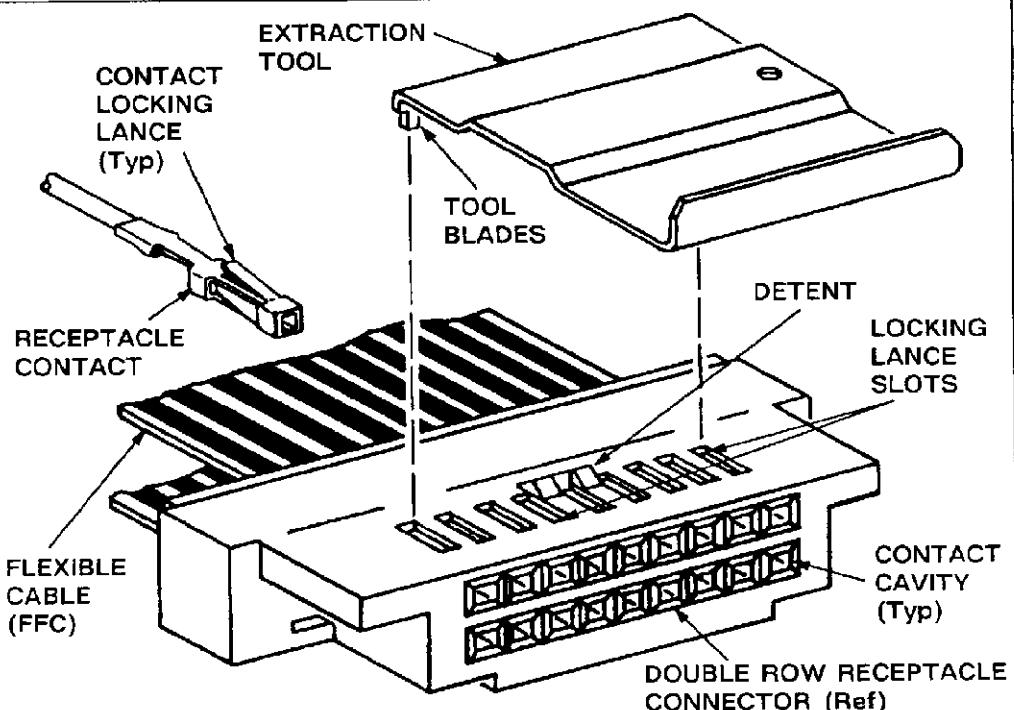
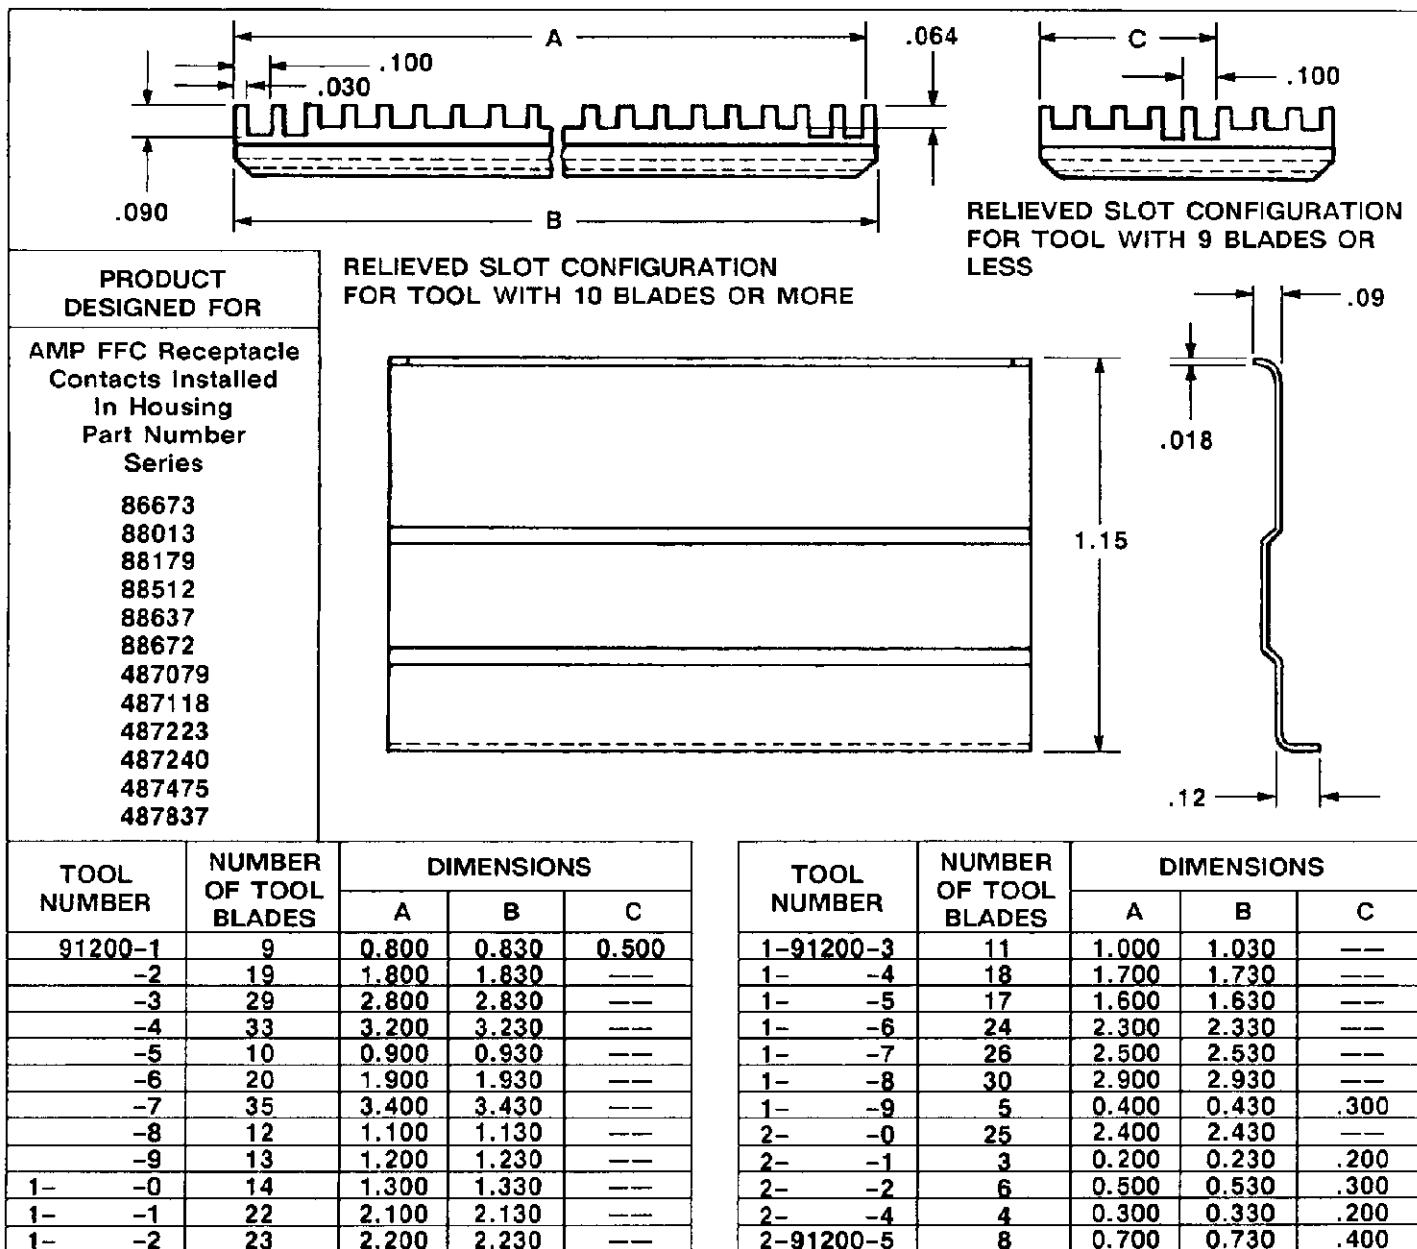

Fig. 1
Fig. 3
The AMP extraction tools listed in Figure 1 extract AMP Flexible Flat Cable (FFC) receptacle contacts from FFC receptacle connectors with side entrance locking lance slots. Refer to Figure 3 for connector part number series. (Refer to IS 7384, tool number 91047 for connectors with end entrance locking lance slots). Read these instructions thoroughly before removing any contacts.
1. Align tool blades with locking lance slots as shown in Figure 1.
Each tool features a specific number of tool blades that release the contact locking lances in the connector (see Figure 1). The number of tool blades must match the number of cavities in one row of the connector.
Refer to the chart in Figure 1 and select the appropriate tool matching the number of blades on the tool with the number of contact cavities in one row of the connector.
To ensure proper operation, the tool should conform to the dimensions provided in Figure 3. It is recommended